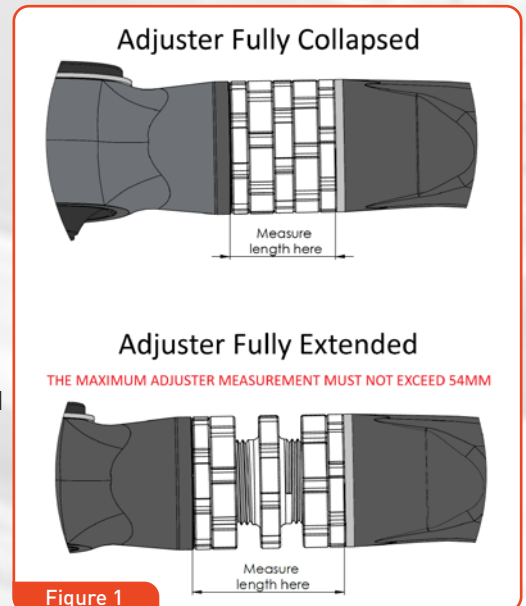

Figure 1
- Adjust the assembly to the recommended settings for your suspension lift. Measuring from the inner face of both the bush aperture and the insert in the main forging. **See Figure 1.**
See Figure 1.
See Figure 1.**